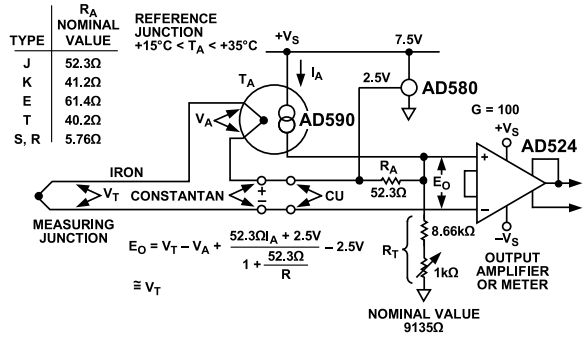

Figure 53. Cold Junction Compensation
Figure 53 shows a simple application in which the variation of the cold junction voltage of a Type J thermocouple-iron ± constantan is compensated for by a voltage developed in series by the temperature sensitive output current of an AD590 semiconductor temperature sensor.
5. For other ranges of ambient temperature, the equation in Figure 53 may be solved for the optimum values of RT and RA.